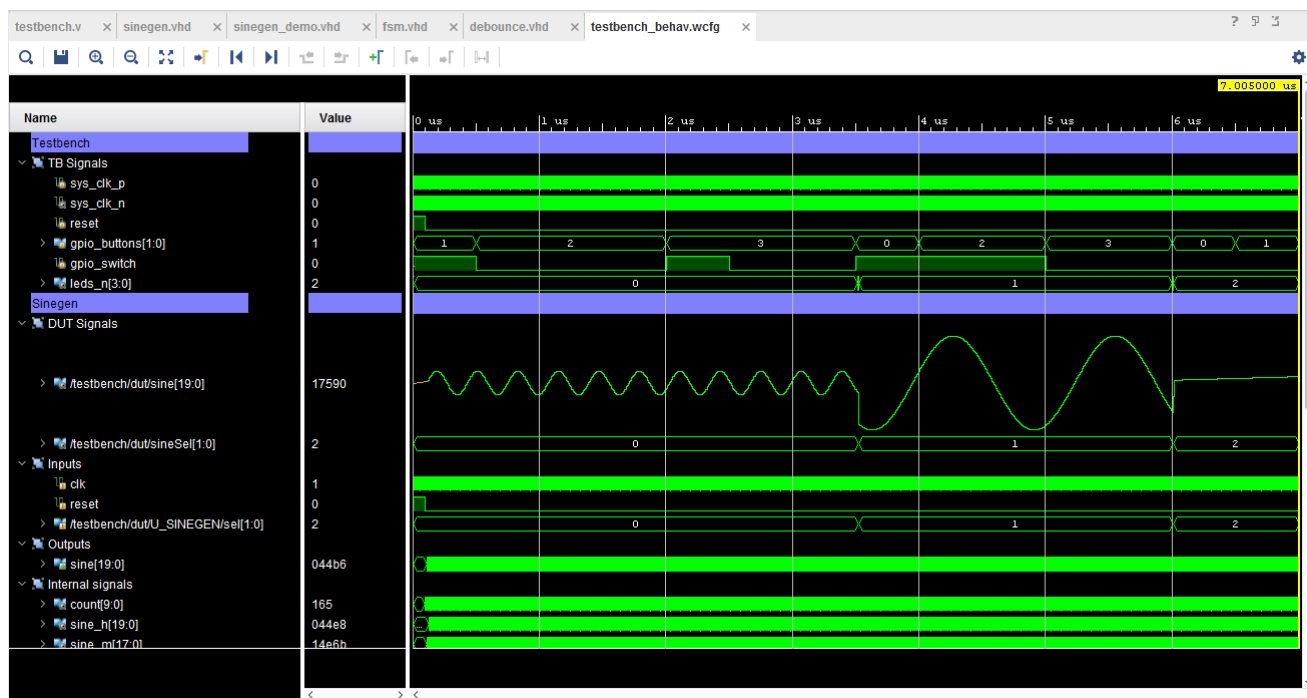

Figure 32: Corrected Low Frequency Output
12. Click the **Run All** button  (Figure 32) to run the simulation.